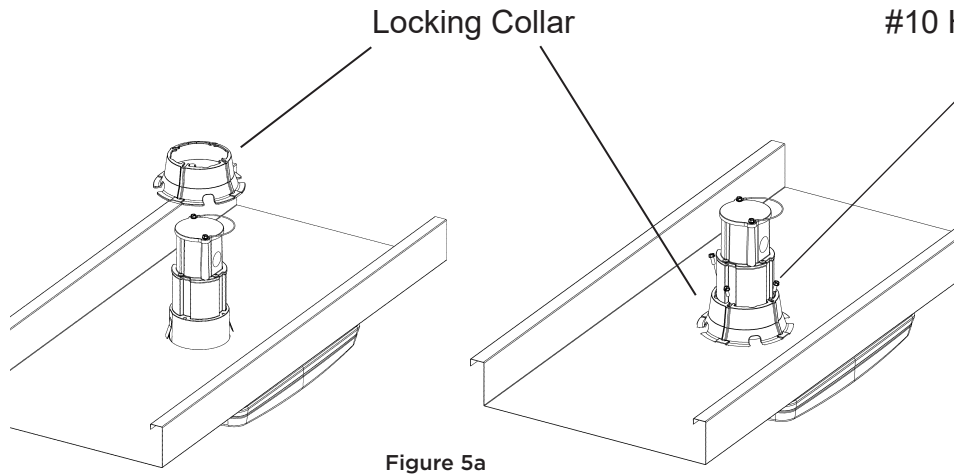
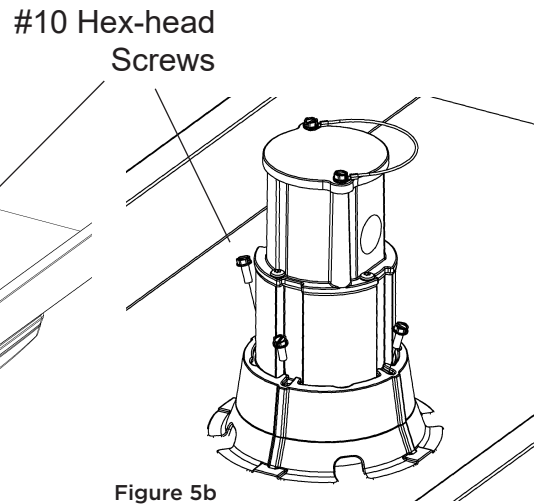

Figure 5a
Figure 5b
- Place Locking Collar over REDiMount Adapter (Fig. 5a).
- Remove (4) #10 hex-head screws from the polybag attached to the Junction Box on the REDiMount.
- Hand-start (4) #10 hex-head screws installing them in the (4) screw mounting slots present on the Locking Collar (Fig. 5b).
- Coloque el collar de bloqueo sobre el adaptador REDiMount (Fig. 5a). Remove (4) #10 hex-head screws from the polybag attached to the Junction Box on the REDiMount.
- Coloque a mano (4) tornillos de cabeza hexagonal n.º 10 para instalarlos en las (4) ranuras de montaje de tornillos presentes en el collarín de bloqueo (Fig. 5b).